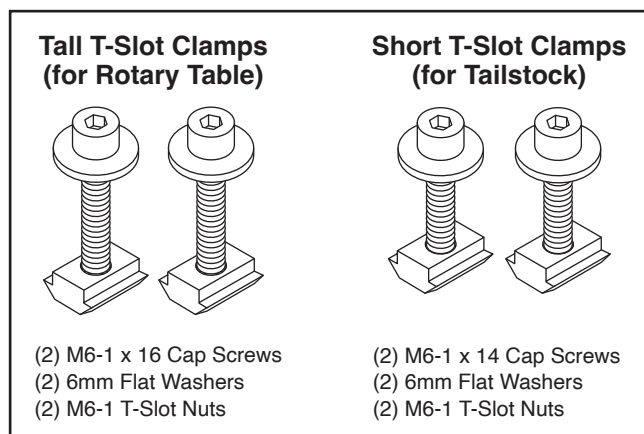

Figure 4. Example of assembled T-slot clamps.
2. Assemble (4) T-slot clamps using diagram shown in **Figure 4**.